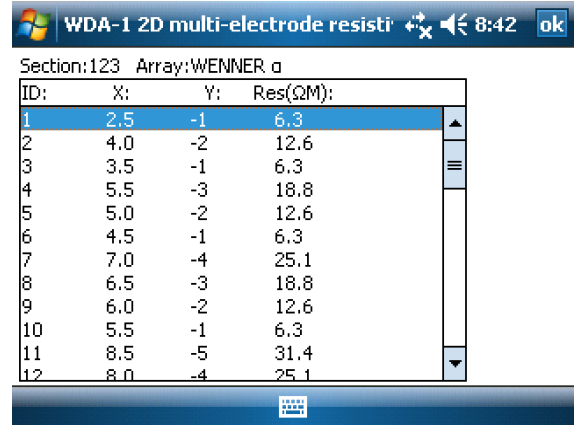

Fig. 7-21
- 2) **Section data:** this function is to review resistivity value ps of all the survey points on a cross-section. What displayed are survey line name, electrode array configuration, X and Y coordinate values and resistivity measured (Fig.7-21). X direction means the actual distance of the measured results in the cross-section and Y direction means the layer number.